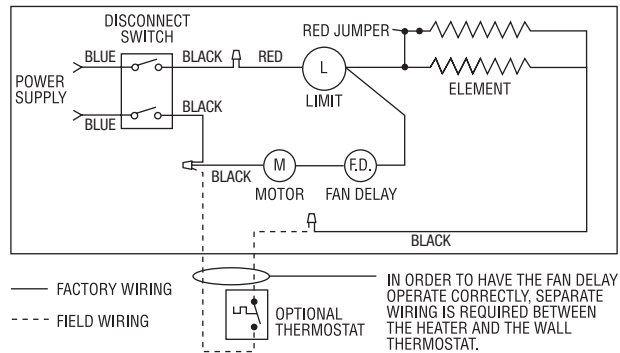

Figure 1A - Single Phase Ceiling Heaters
7. Fit heater back box into hole in ceiling and secure in position using mounting holes in side of back box with four (4) fasteners (not provided). See WARNING Number 8.
9. Remove the wiring compartment cover from heater assembly by removing two (2) screws. Mount the heater to the back box using four (4) screws previously removed in step 5.
11. Connect the power supply lead wires to the blue colored lead wires on the disconnect switch using appropriately sized wire connectors. See Wiring Diagrams Figure 1A-1E.
12. Feed the heater (or accessory if provided) lead wires through the smooth hole in the disconnect switch bracket and connect these leads to the black colored lead wires from the disconnect switch using appropriately sized wire connectors. See Wiring Diagrams Figure 1A-1E.
13. Carefully bundle lead wires under disconnect switch bracket and secure bracket to back box using two (2) screws removed in step 5.
15. Install the front cover using the four (4) standard cross recess or the spanner tamper resistant screws provided with the heater.